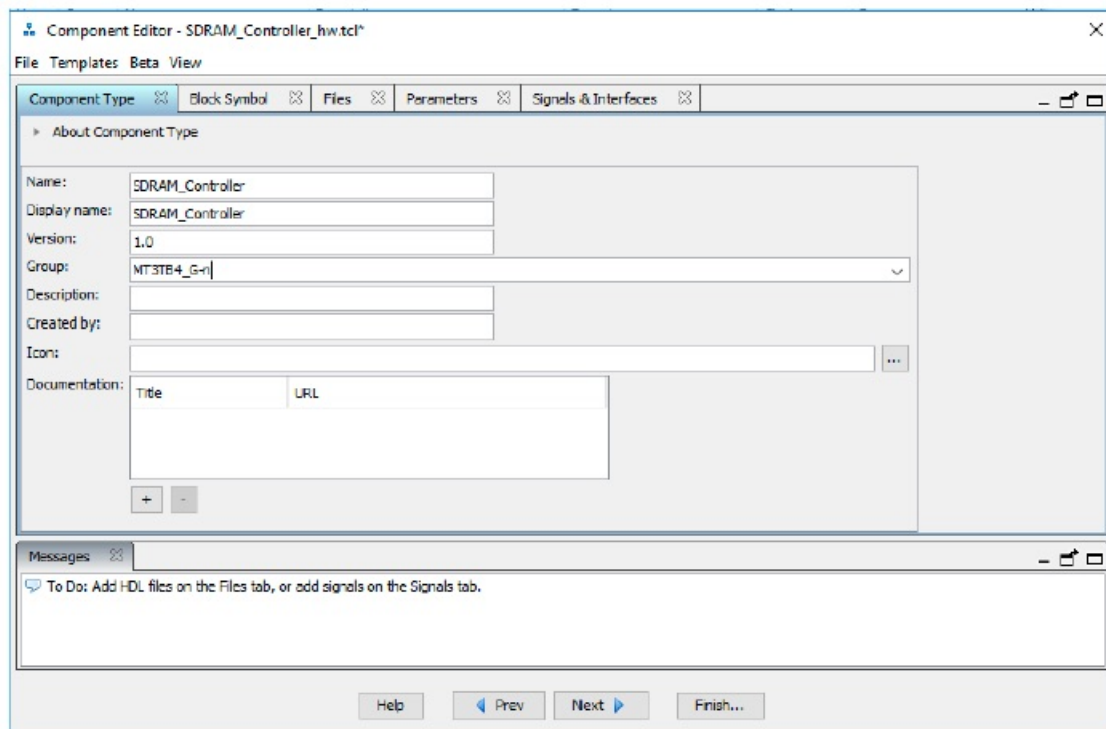

Figure 4: Specifying Component Type
- In the window that opens, define your own component for the system by specifying both the "Name" and the "Display Name" as "SDRAM Controller". In the "Group" field, input "MT3TB4_G-n", where "n" is your lab group number (Figure 4). Click on "Next".